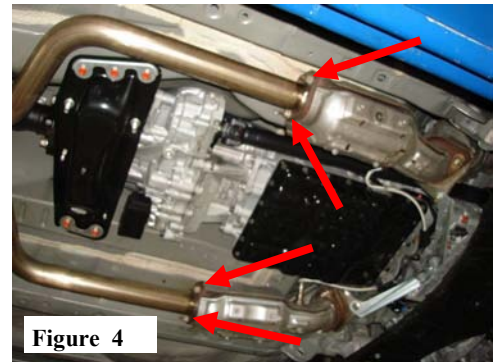

Figure 4
1. Install Left and Right Front Pipe Assemblies using OE hardware. (See Fig 4)